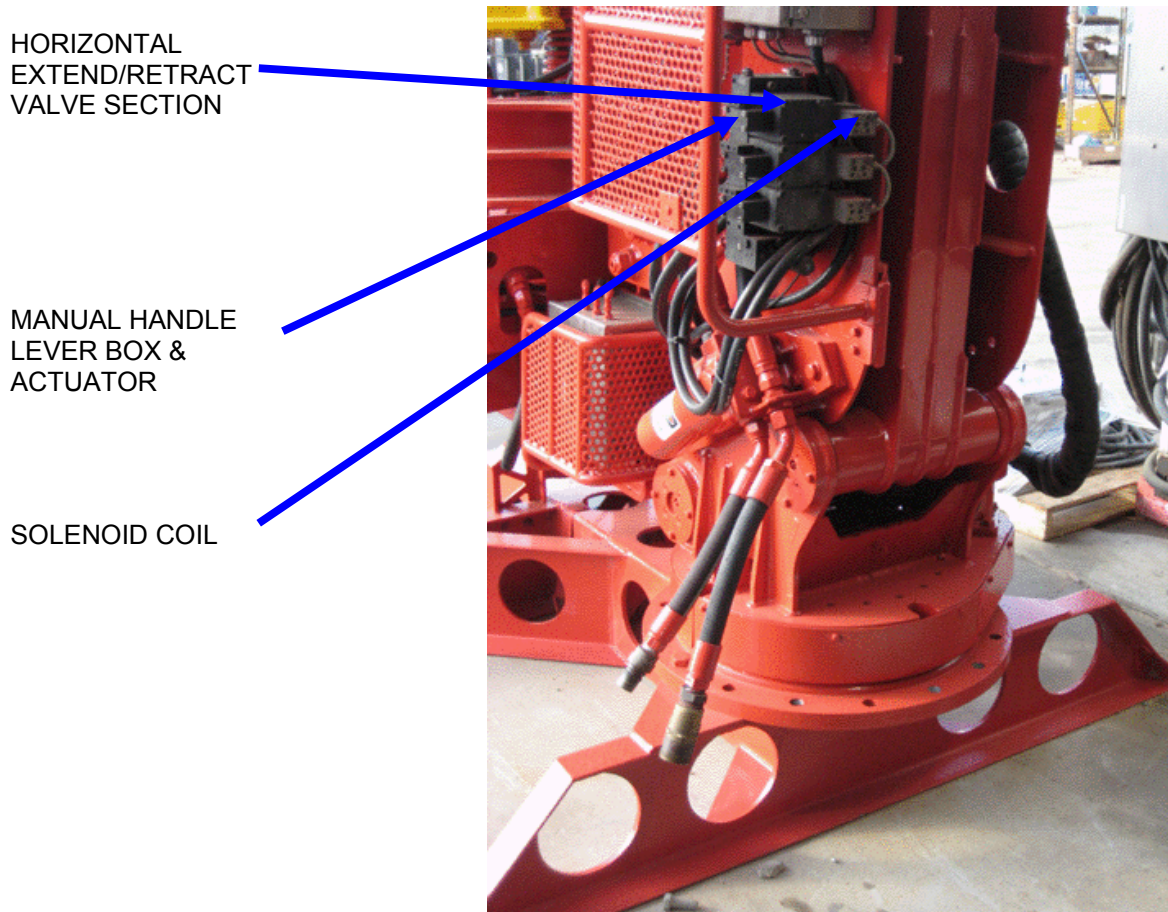

Figure 4
7. Locate the horizontal extend/retract valve section on the arm valve bank (Figure 4). This will be the valve section on top for all models.